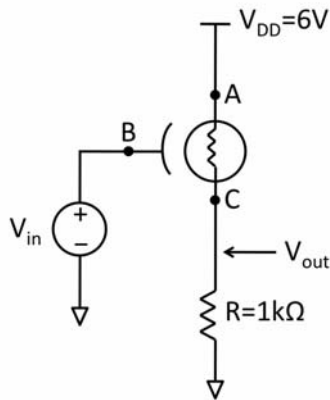
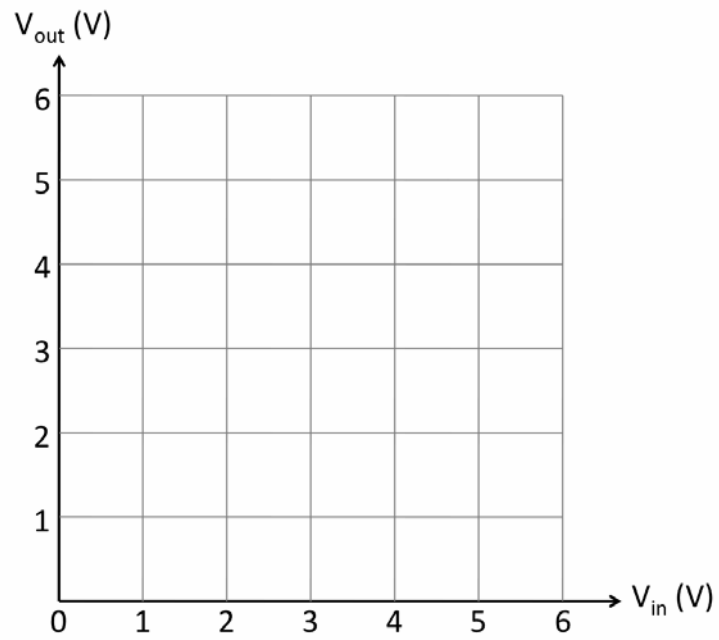

Figure 2 An Inverter that Employs the New Device.
Figure 3 VTC of the Inverter in Fig. 2.
- (1) One of last year’s EE141 students played with the device and constructed a logic inverter as shown in Fig. 2. Sketch the voltage transfer characteristic (VTC) of this inverter in the space provided in Fig. 3. (4 pts)
(2) Compute the noise margins ( $NM_H$  and  $NM_L$ ) of the inverter in Fig. 2. (3 pts)